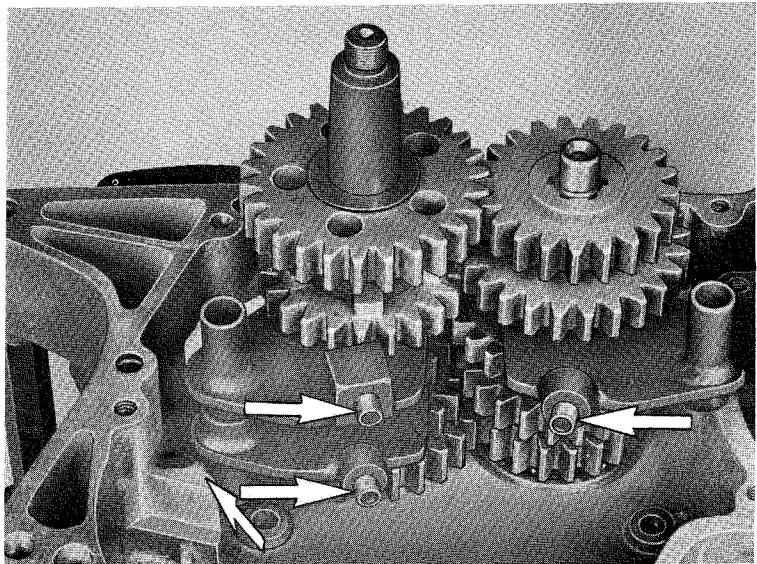

Fig. 15
15. Move the shiftingforks to the left (rearwards) in order to facilitate assembly of the shifting drum. See fig. 15
NOTE: Ensure that all rollers are in position. See Fig. 15.